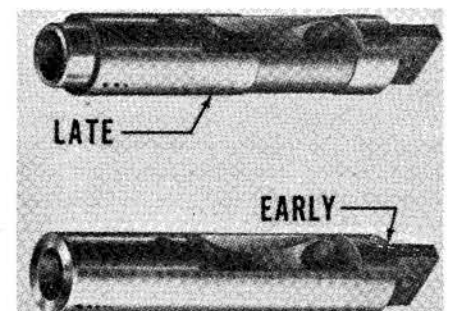

Fig. 183—View showing late and early type control valve spools.
**232. RATE OF LOWERING (DROP) ADJUSTMENT.** The control valve spool incorporates a series of five cylinder exhaust ports (early "FMD") or an annular recess on inner end of spool and a series of three cylinder exhaust ports (late "FMD" and all "FPM") as shown in Fig. 183. The farther the control valve lever is pushed down, the greater the exhaust port area and thus a faster implement drop is obtained by pushing the lever down farther past neutral position.